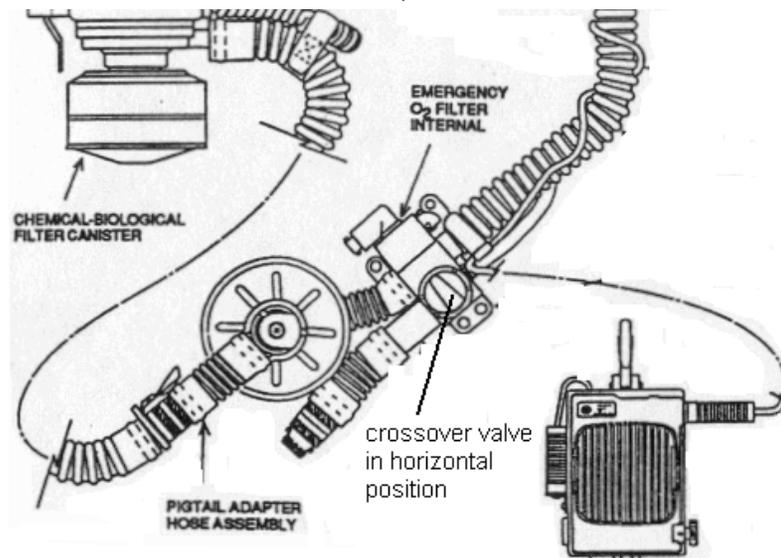

Figure 4.
- Turn crossover valve to the horizontal position. Refer to Figure 4.